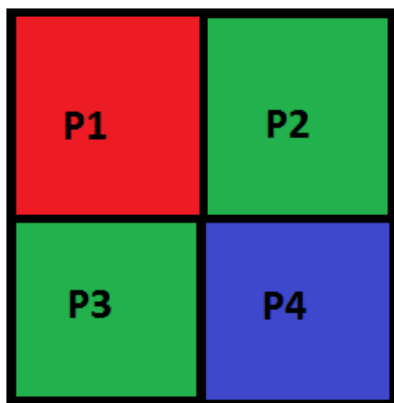

Figure 11.6. Bayer pattern
The nearest neighbor interpolation method is the simplest Bayer demosaicing algorithm. For a Bayer pattern [Bay76] of four neighboring pixels P1 to P4 (see Figure 11.6, 'Bayer pattern') the missing red (R), green (G) and blue (B) colors can be interpolated according to [Ada95]: